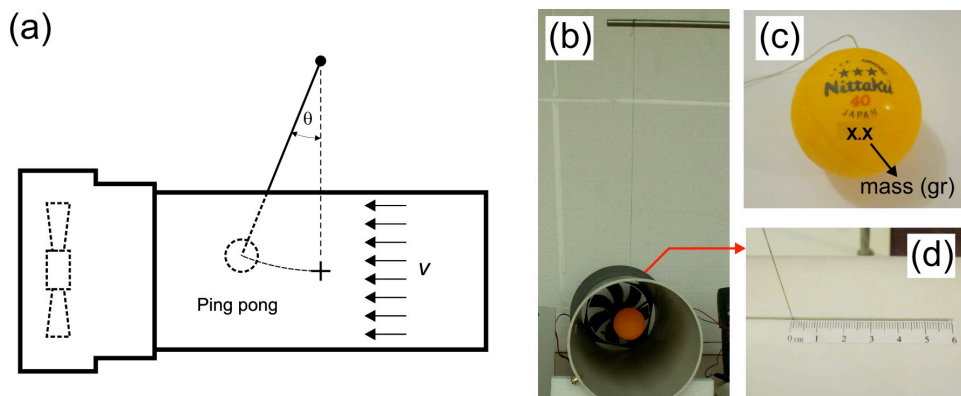

Figure 6. Ping pong ball anemometer experiment.
Measuring wind speed is a primary metrology activity in wind power engineering. We will investigate a very simple method to measure wind speed using a ping pong ball pendulum as shown in Figure 6.
where C_D is the drag coefficient of the object, ρ_A is the density of the fluid (air), A_B is the cross section of the ping pong ball, v is the velocity of the ball relative to the fluid and m is the power factor. Mass of the ping pong ball m_B (in gram) is written on the ball as shown Figure 6(c). Please refer to **Constants & Data** in. pg. 2 for other data.
- (a) Insert the pendulum thread into the slot with the imprinted ruler as shown in Figure 6(d). Position the ping pong ball at the center of the tunnel.